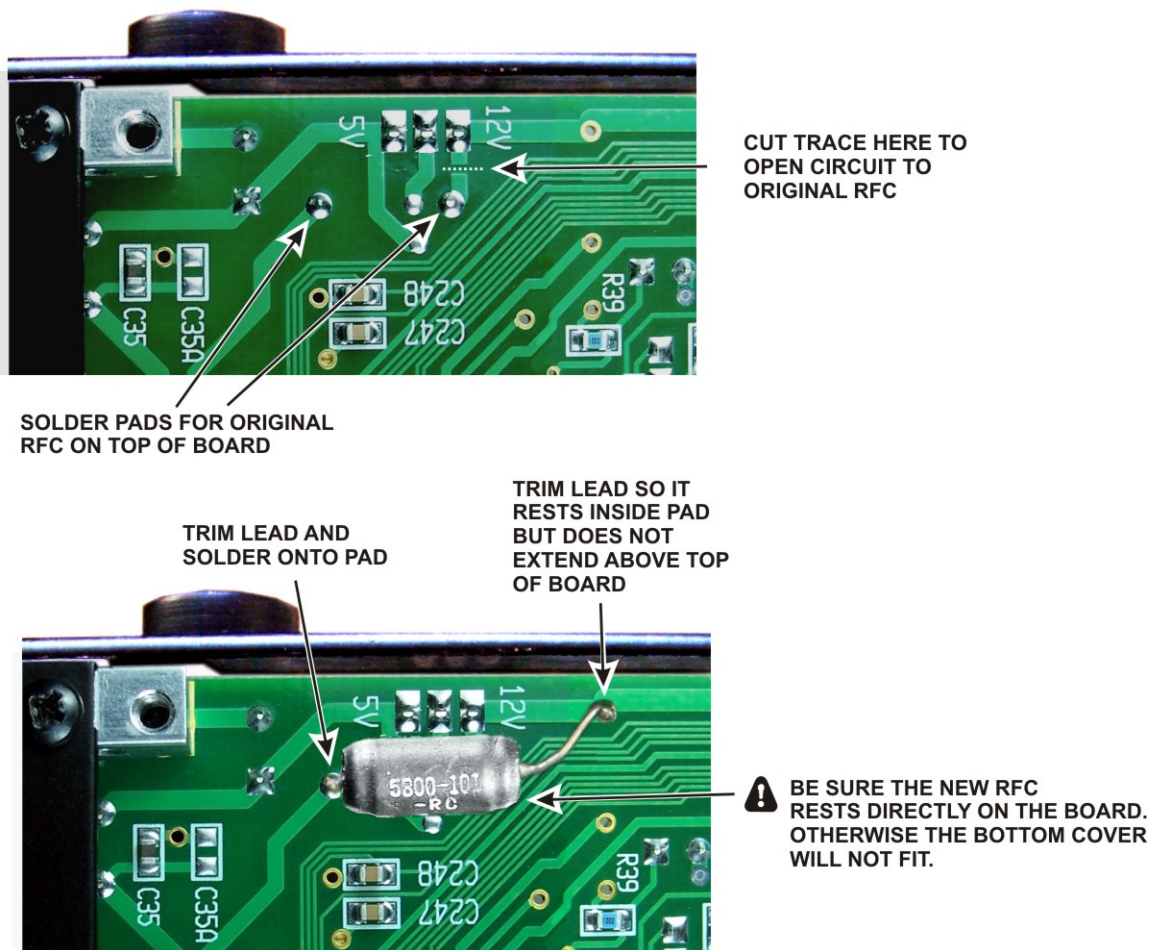
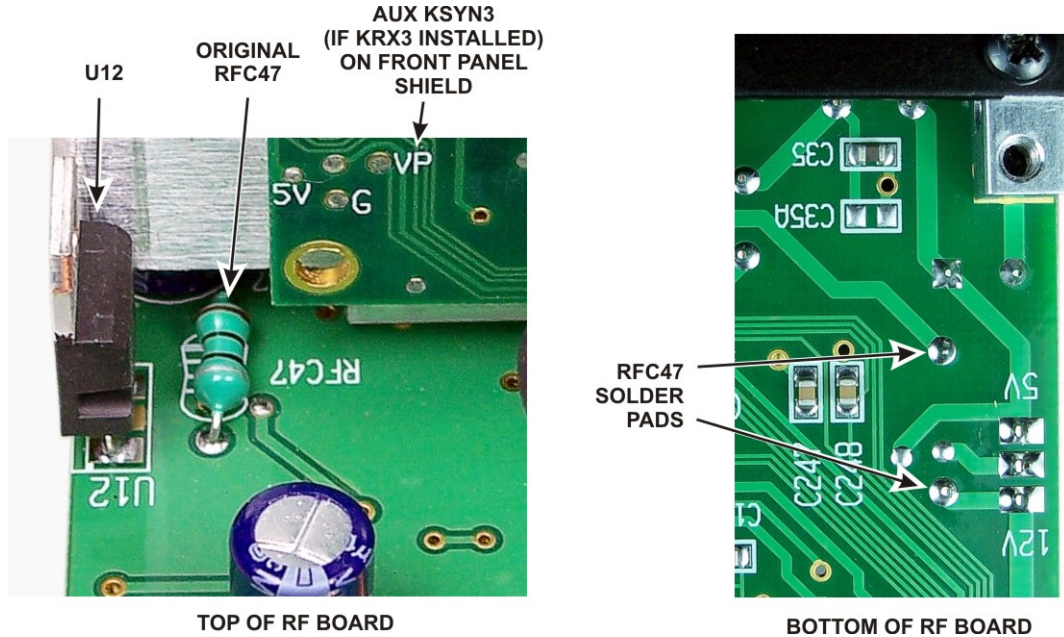
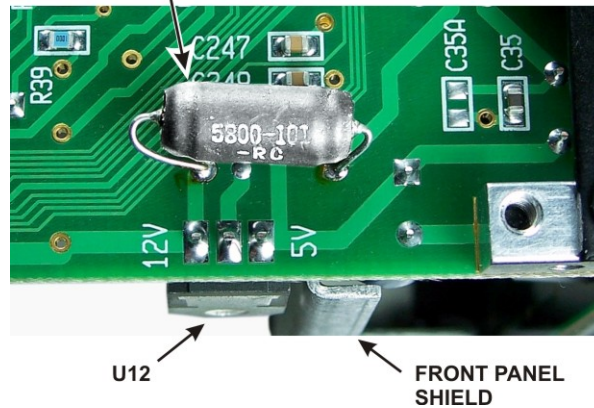

Figure 1. Short Procedure – Installing new RFC Without Removing the Original RFC.
Figure 9. RFC47 Location on RF Board.
Figure 10. New RFC Installed.
RFC47 is located on the main K3 main RF board on the right side (viewed from the front) near the front panel shield. (See Figure 9). The replacement RFC is Elecraft part number E690017 shown in Figure 1 and Figure 10.
- Cut the trace shown in Figure 1 to isolate the original RFC from the circuit.
- Install the new RFC as shown in Figure 1, connecting one lead to the solder pad occupied by one end of the original RFC and the other lead in the open pad shown. Be sure you trim the lead going into the open pad so it does not extend above the top of the pc board.
Locate the existing RFC47 next to U12 directly behind the front panel shield on the top of the RF board as shown in Figure 9.
Install the new RFC47 on the bottom of the board as shown in Figure 10. If you cleared the solder pads, pass the leads through them. Pre-fit and trim the leads so no excess extends above the board, then solder from the **bottom** of the board. If you did not clear the solder pads, trim the leads as needed to reach the pads and solder them directly on top of the existing leads still in the pads.